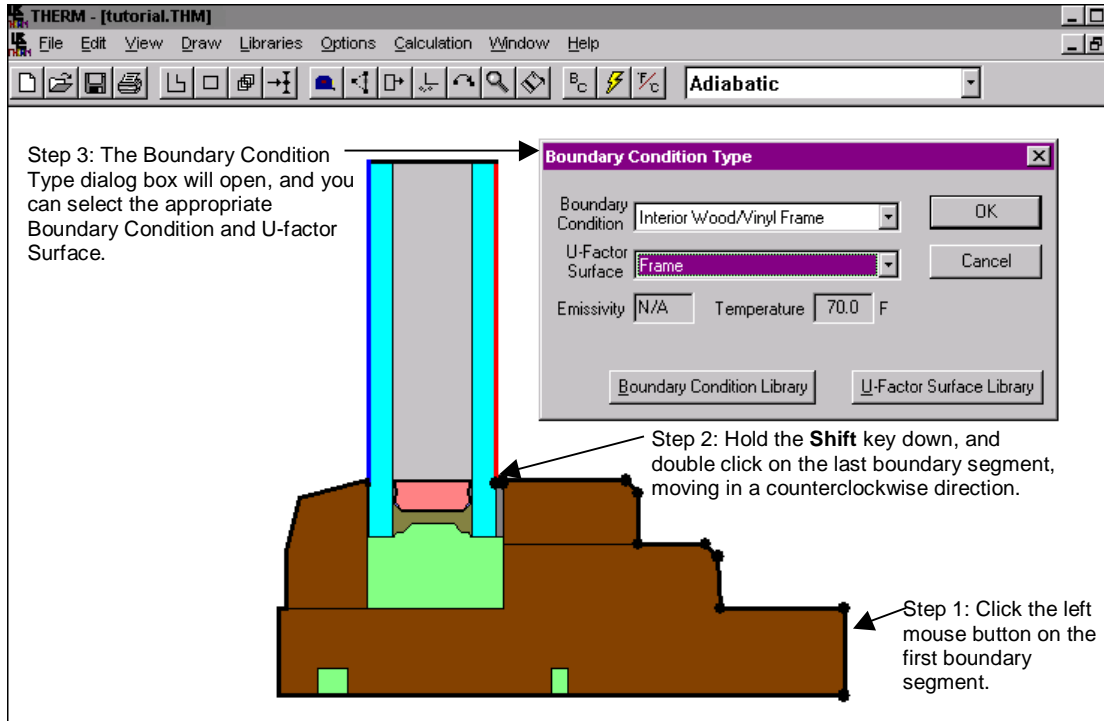

Figure 8-47. Select multiple boundary segments for the interior side of the cross section, and define their boundary conditions.
- Hold the **Shift** key down, and click on the segment on the interior stop. The program automatically selects all boundary segments between the first and last selected segments, *moving in a counterclockwise direction*, as shown in Figure 8-47.
- Press **Enter** and the **Boundary Condition Type** dialog box will appear. Select **Interior Wood/Vinyl Frame** for the boundary condition and **Frame** for the **U-Factor Surface** as shown in Figure 8-47. Press the **OK** button.